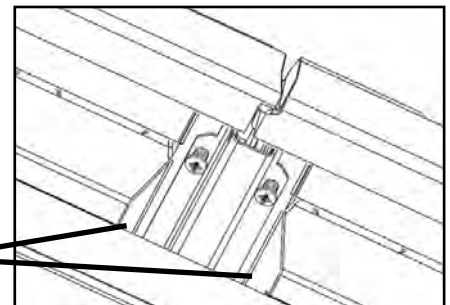

Fig. 2
24c Along the outside edges of the shed, Fasten the Trusses to the underside of the Roof Panels (Fig. 1). Insert two Foam Cubes (BG) at each truss location (Fig. 2).
29c Slide Door Trim Clips (CK) into the top of the Side Door Trim (AR) (Fig. 1), on each side of the door. Slide the Top Door Trim (AS) into place, and Secure with the Door Trim Clips (Fig. 2).